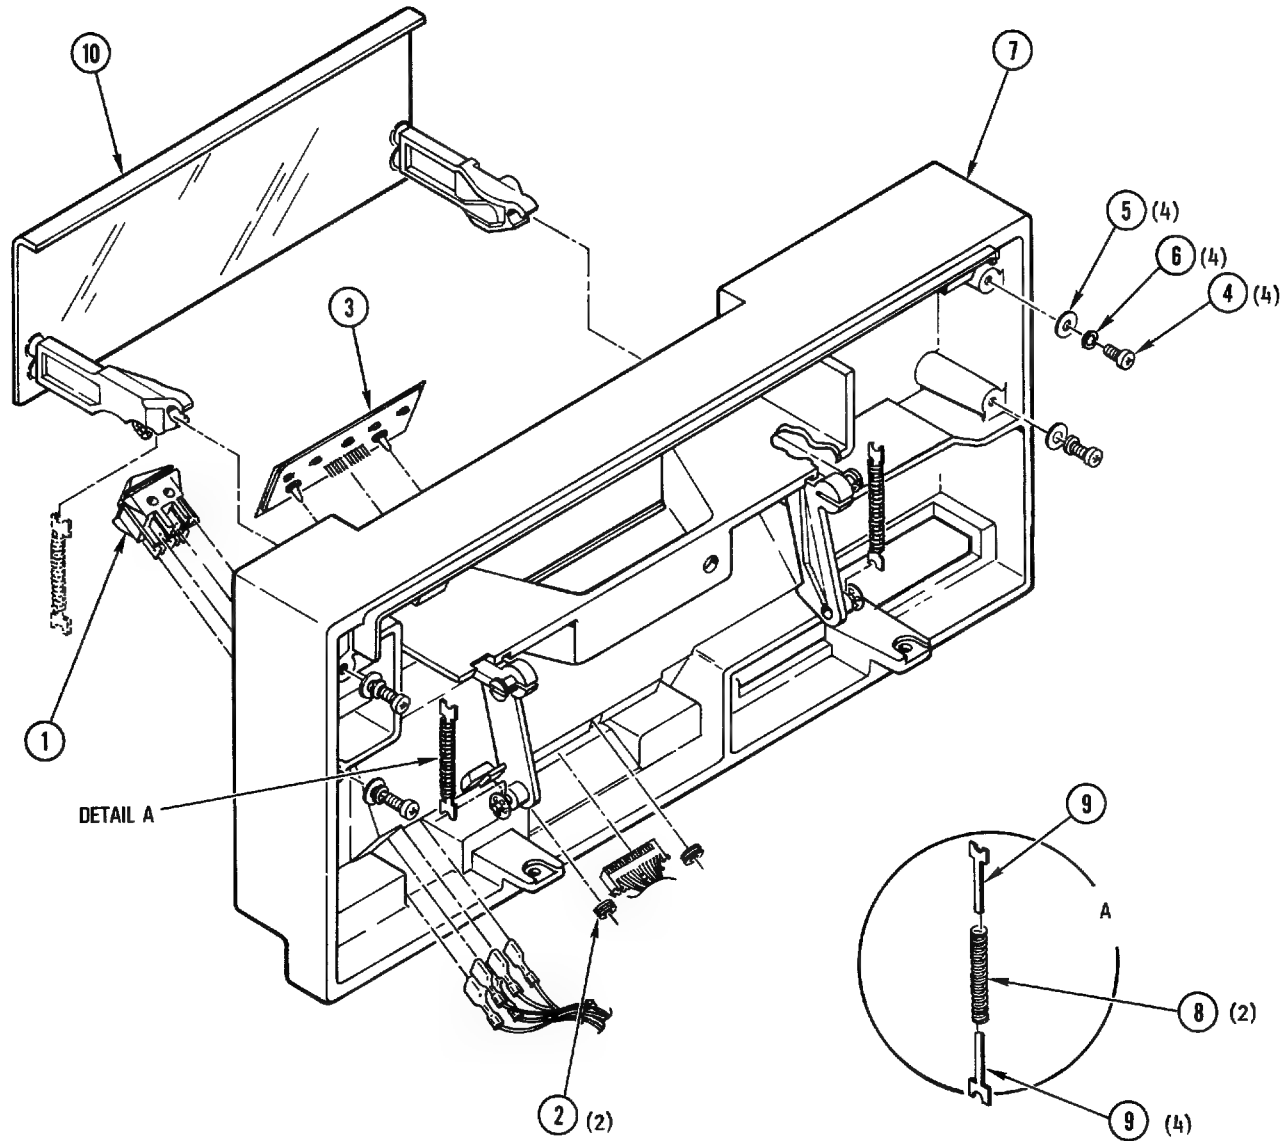

Figure 4-7. Front Panel Assembly
4-19. **Power Switch Replacement.** To replace the power switch (1, Figure 4-7) proceed as follows:
**4-20. Touch Switch Replacement.** To replace the touch switch (3, Figure 4-7), proceed as follows:
- c. Remove grommets (2) from attachment posts of switch (3) and lift switch out of front panel.
- d. Insert replacement switch in front panel, place grommets (2) on attachment posts, pressing down tightly against panel, and secure using Permabond.
**4-21. Front Panel Subassembly Replacement.** To replace the front-panel subassembly (7, Figure 4-7), proceed as follows:
- d. Remove following parts and subassemblies from discarded front-panel subassembly (7) and replace in replacement front panel subassembly as follows:
- (1) Power switch: refer to paragraph 4-19.
- (2) Touch switch: refer to paragraph 4-20.
- (3) Door assembly: refer to paragraph 4-22.
**4-22. Removal And Replacement of Door Assembly.** To replace the door assembly (10, Figure 4-7), proceed as follows:
- b. Remove two springs (8) and four guides (9), and push door out of front panel, using finger pressure on back of door from under side of panel.
- c. Install door assembly in front panel subassembly by snapping arms onto plastic studs of front panel assembly, as indicated in Figure 4-7.
- d. Assemble guides (9) with springs (8), with flat surfaces of guides in contact with each other.